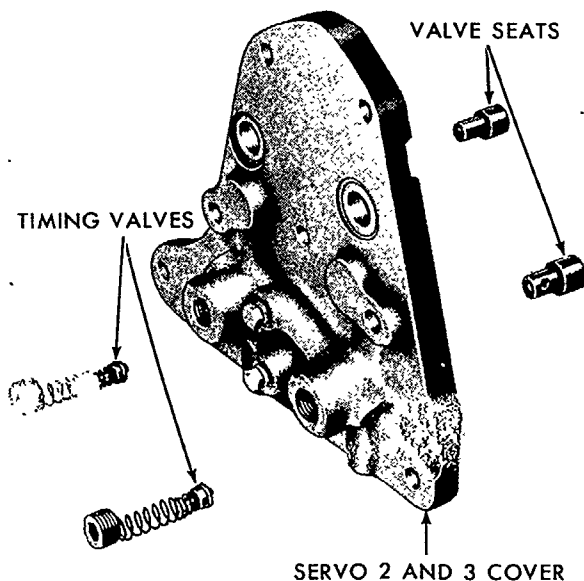

Figure 116
2. Remove the springs and timing valves from the valve seats. See Figure 116.